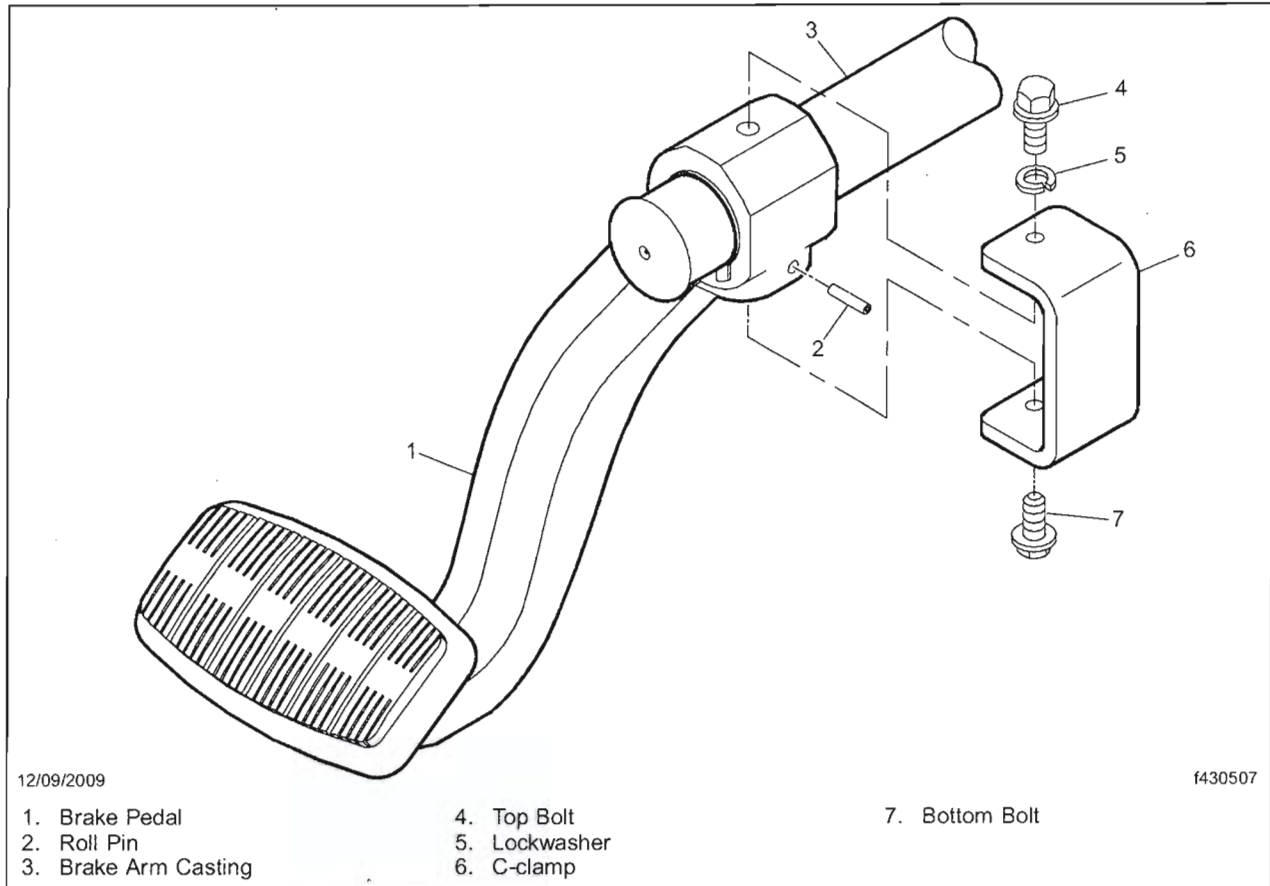

Fig. 1, Adjustable Brake Pedal Assembly
3. Check to see if a C-clamp or roll pin is installed on the adjustable brake pedal. See **Fig. 1**.
1. With the C-clamp in your hand, install the C-clamp assembly in the guide hole at the top of the brake arm casting. Make certain the C-clamp is against the casting and tighten the top bolt 40 ± 5 lbf-in (452 ± 5 N·cm). The bolt with the lockwasher should be installed at the top, as shown in **Fig. 1**, Items 4 and 5. Then tighten the bottom bolt 40 ± 5 lbf-in (452 ± 5 N·cm).